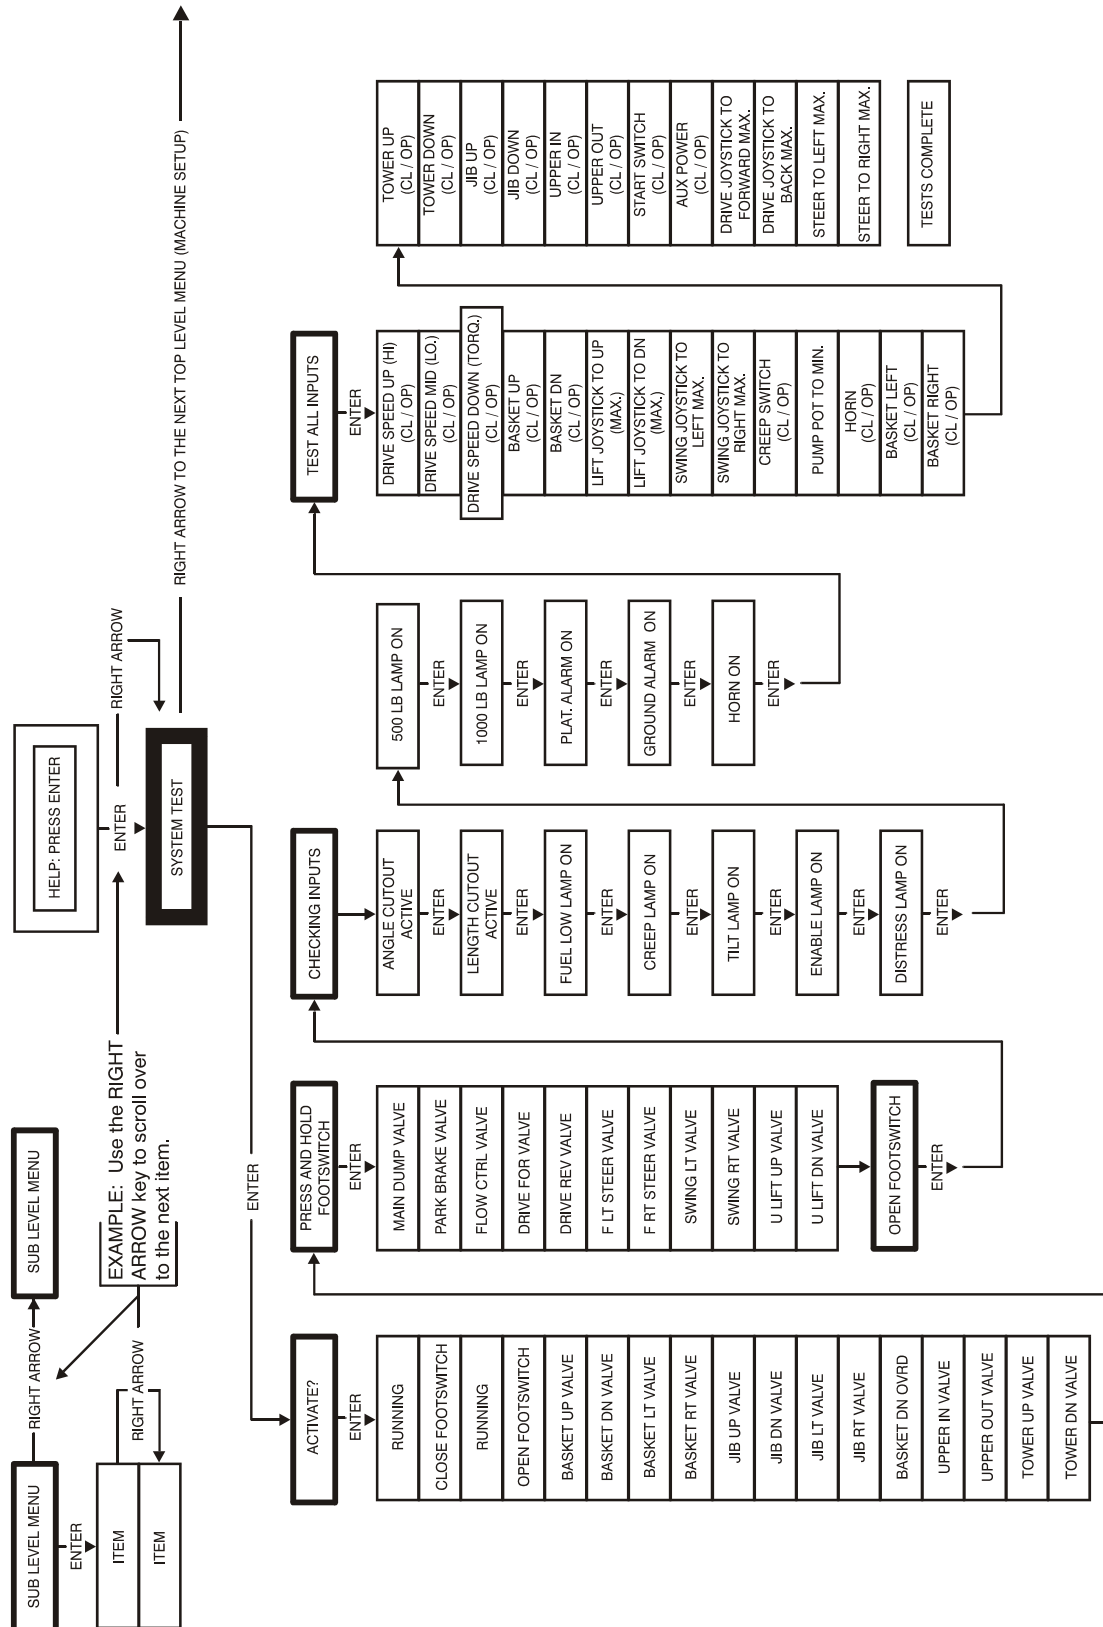

Figure 6-14. System Test Flow Chart - Platform Tests
6. Follow flow path in Figure 6-14., System Test Flow Chart - Platform Tests and go through component tests. Press ESC key during any part of test to return to main menu without completing all tests or wait until all tests are complete. During TEST ALL INPUTS sequence, the analyzer allows control switches to be operated and shows if they are closed (CL) or open (OP).